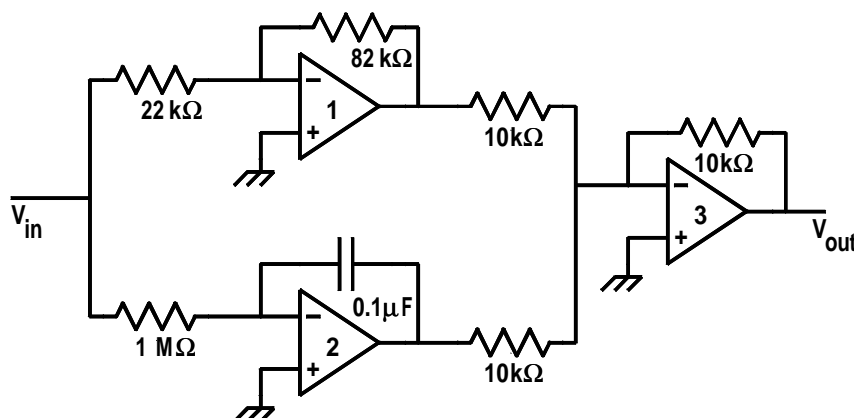

Figure 47.2: Problem 47.2.
- 47.2 Derive the mathematical expression which gives the output of the circuit, shown in Figure 47.2, in terms of the single input V_{in} .